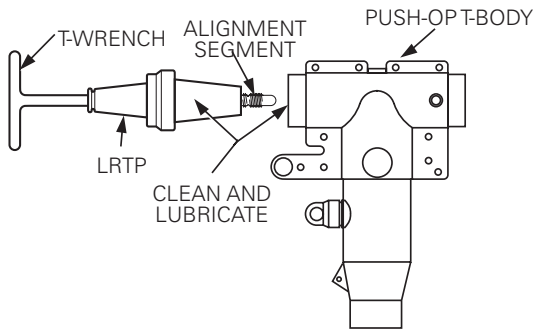

Figure 8. LRTP installation into T-body.
- Insert the 600 A alignment segment end of the LRTP into the side of T-body opposite the apparatus bushing. (Refer to Figure 8.)